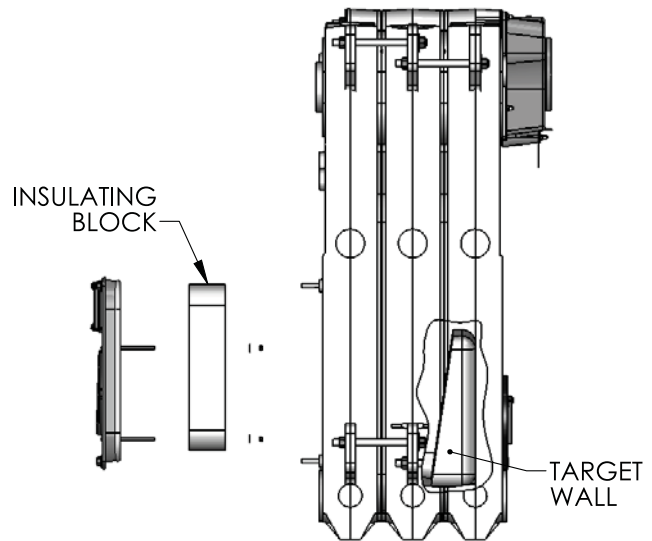

Figure 2.7: Target Wall Installation
1. The target wall is used on 3–6 section boilers. It is to be inserted into the combustion chamber and positioned with the large flat side against the Back section. No glue or fasteners are used to secure the target wall against the section. Refer to Figure 2.7.